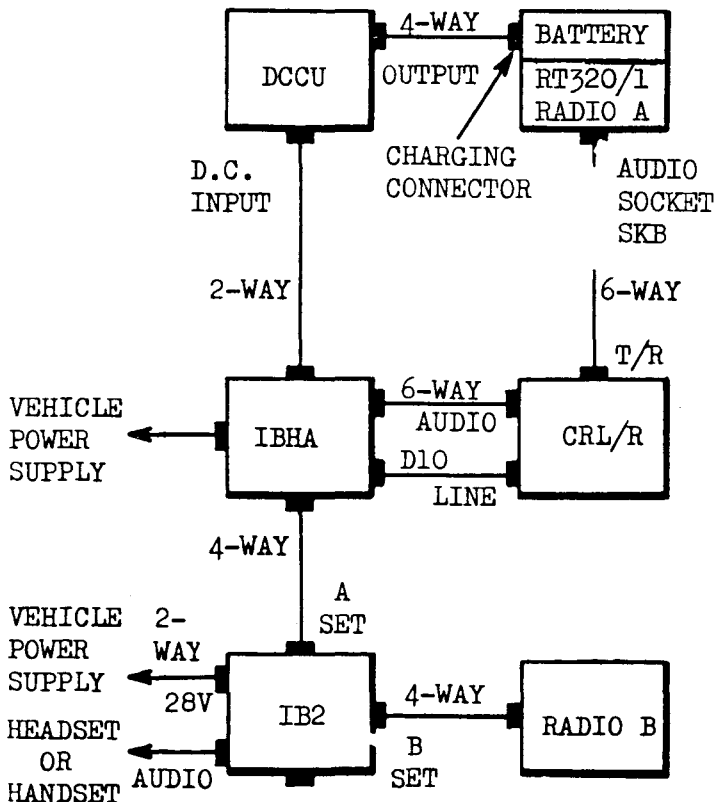

Fig.15 Local Rebroadcast Interconnections
REBROADCASTING (Fig.15)
2.21 The PRC320/1 can be operated as a manual rebroadcast station in conjunction with a control, radio set, local/remote (CRL/R), an interconnecting box, harness adaptor (IBHA) and an interconnecting box, 2 radio (IB2). Interconnections between the units are shown in block diagram form in Fig.15, but reference should be made to the User Handbook for Clansman Radio Control Harness, Army Code No. 61172.